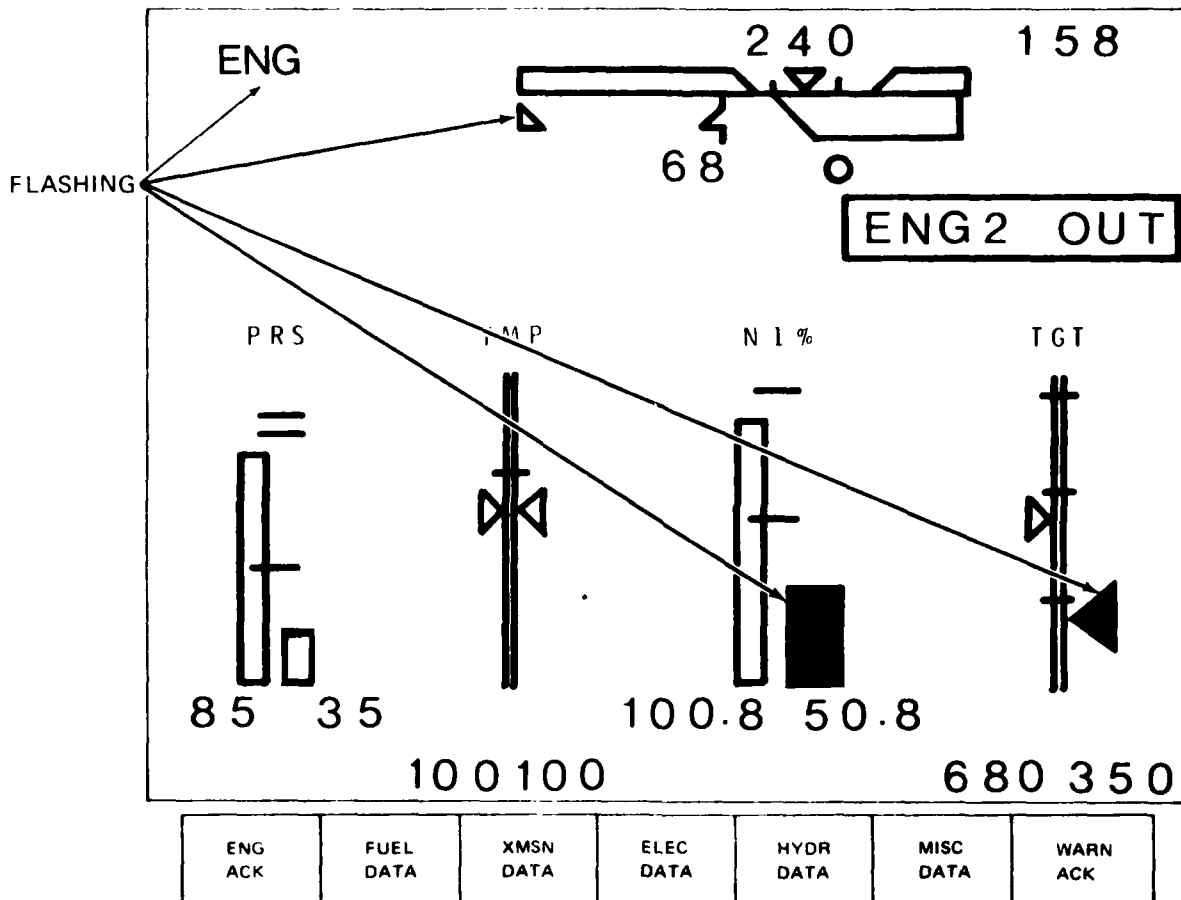

Figure 4. Sample Display Format - Fault Detected
- b) EMMADS determines the highest priority fault using the priority structure of Table 1 and displays the raw data of the subsystem related to that fault in the Subsystem Data Area. Figure 4 shows an example of this for the case of a failure of the number 2 engine. Note that the out of tolerance parameters are indicated by the use of oversized symbology. The fact that the symbols are filled in indicates that an operational limit has been exceeded. Note also that if other faults existed in the same subsystem, they would likewise appear even though they might be of lower priority than the fault which brought about the display of that subsystem. The symbols are flashing because they are part of a fault which is not yet acknowledged. Also, the subsystem name "ENG" in the upper left of the Dedicated Status Area is flashing because there is an unacknowledged fault in that subsystem. Note that the MLDS previously labeled "ENG DATA" now reads "ENG ACK" and the right most switch now reads "WARN ACK".
When a Warning is detected, an appropriate message is displayed in the Warning Message Area. (In the case of the example in Figure 4, the engine failure results in the message ENG 2 OUT being displayed.) A box around the message(s) indicates the highest priority warning(s) displayed. These highest priority warning messages are located in the top row of the Warning Message Area. The messages have positional significance: left and right of center if they pertain to engine or system numbers 1 & 2 respectively or centered when no such symmetry considerations exist (e.g., rotor rpm).